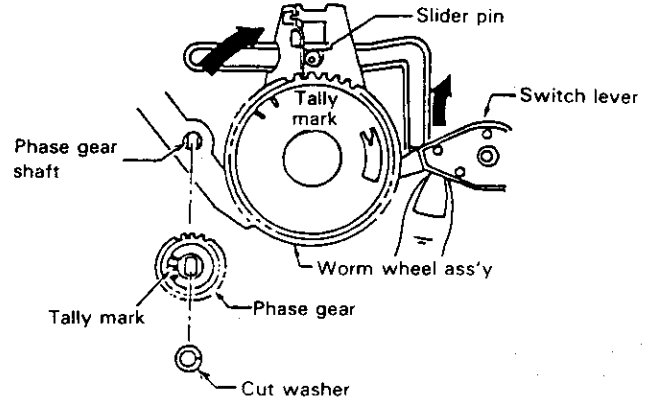

Figure 1-7.
5. Place the slider pin just above the worm wheel (Figure 1-7). (The retainer of the slider is locked at two positions when. So unlock it as in the Figure 1-8.)
6. Pull out the worm wheel assembly toward you pressing the switch lever upward. (Figure 1-7)